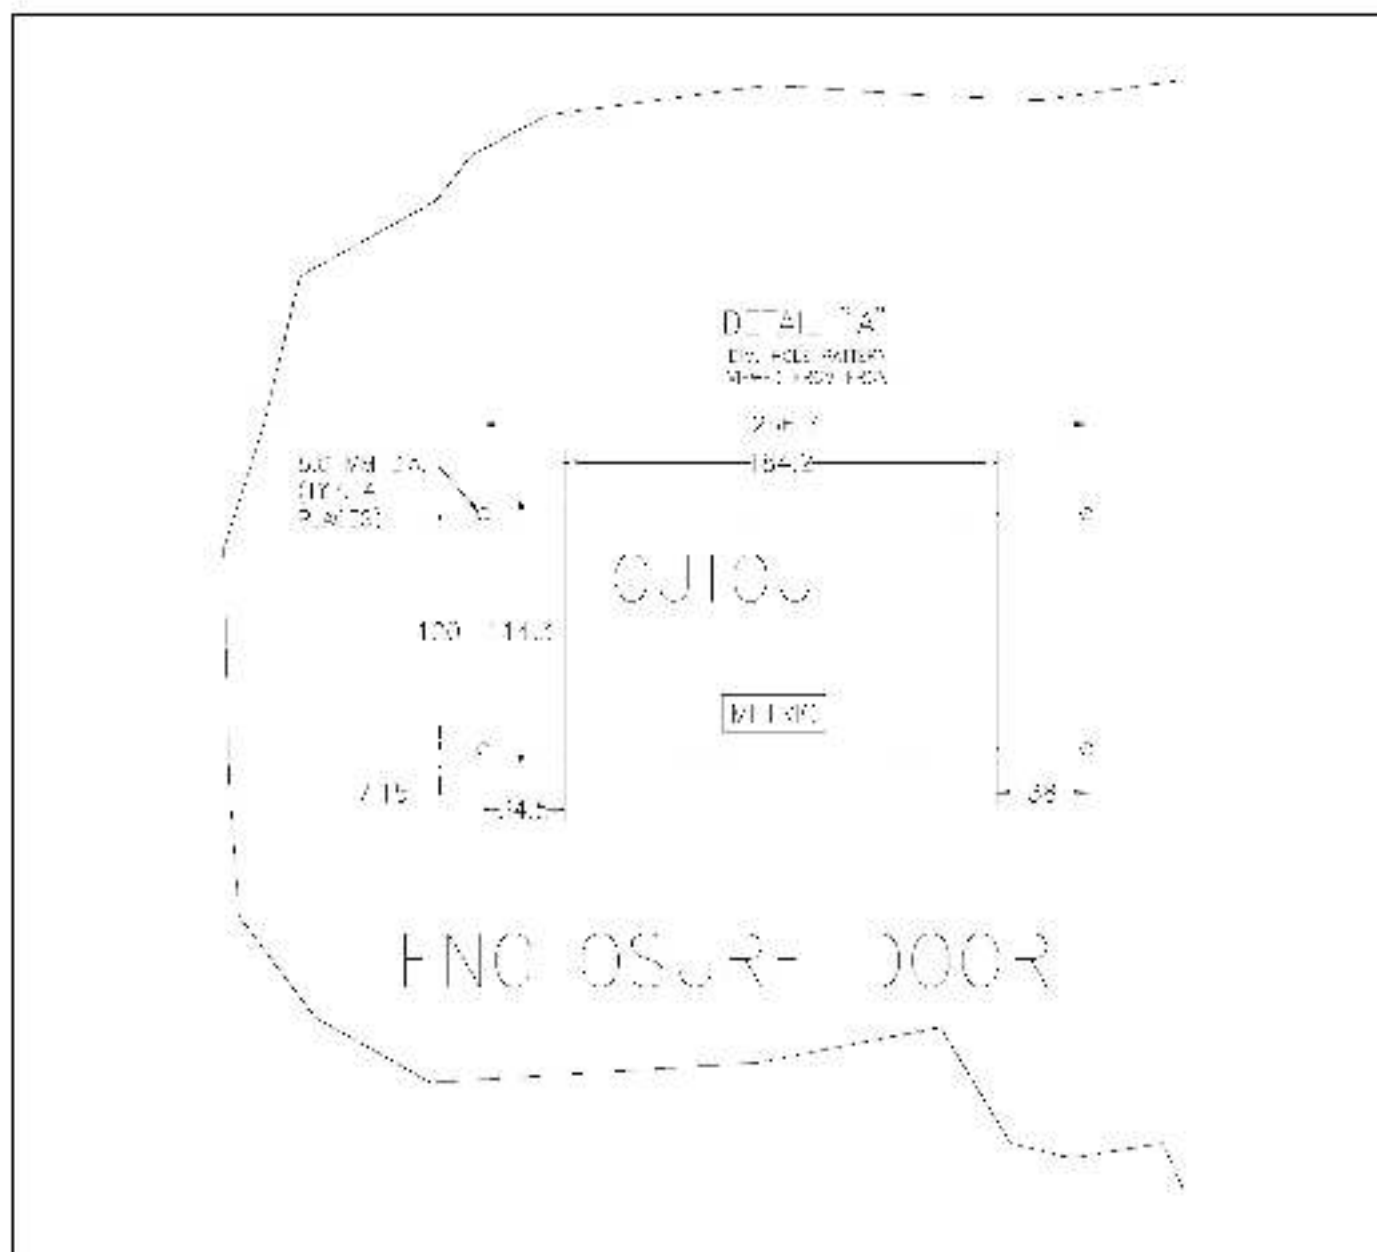

Figure 3 - Enclosure Cutout Dimensions.
1. At the desired mounting location, drill four 5.0mm holes and cutout opening in the enclosure door for mounting the OIM. (Refer to Figure 3 as a guide for cutting opening and drilling holes.)